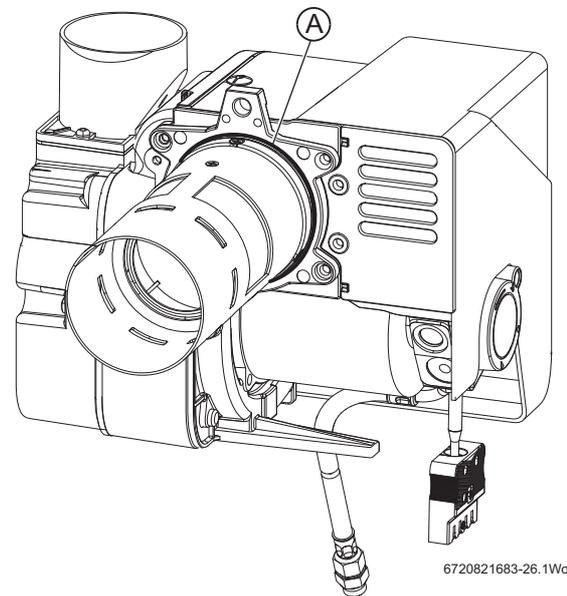

Fig. 43 12/18 Burner O-ring seal shown
- ▶ Always check that the O-ring seal (Fig. 43 item A) is in good condition before fitting the burner. Replace the O-ring seal if defective.